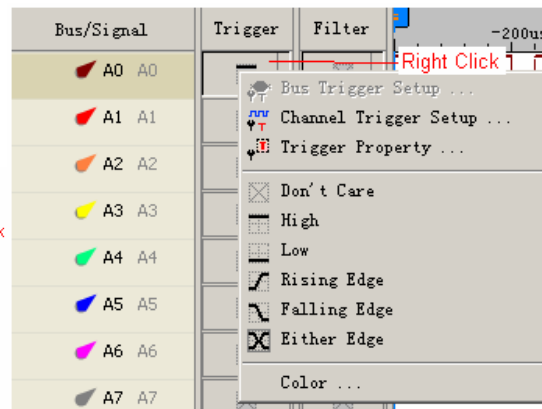

Fig 4-23 – Right Click on Trigger
2. Right click  to set the signal trigger condition as shown in Fig 4-23.